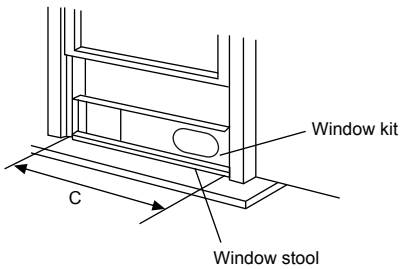

Fig. 9
2. Attach the window slider kit to the window stool. Adjust the length of the window slider kit according to the width of window, shorten the adjustable window kit if the width of window is less than 26.5" (67.5 cm). Open the window sash and place the window slider kit on the window stool. Fig. 9